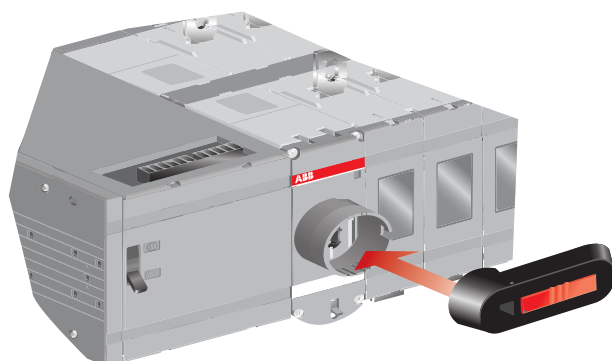

Figure 5-3 Attaching the handle
3. Attach the handle by pressing it to the changeover switch panel until it clicks into place.You can attach the handle in all position(I,O,II),see Figure 5-3.